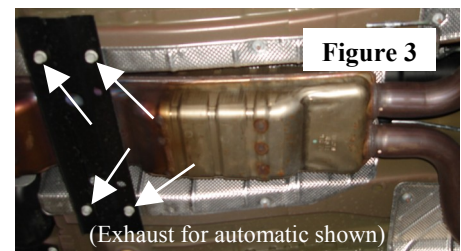

Figure 3
2. Remove (4) cross-brace support bolts using 15mm socket (figure 3). Place hardware to the side.
4. Using a muffler stand or an additional person to hold the rear muffler into position, remove the hangers from the rubber isolators (figure 3) and at each rear muffler.